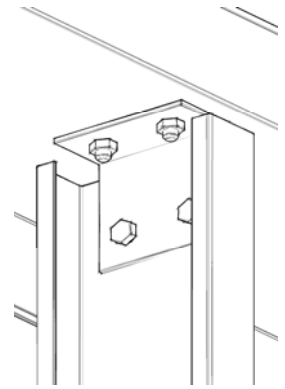

FIGURE 4
- d. Attach the Clips, (Part SC-011-GV), to both ends of the Vertical Channels with (2)  $\frac{3}{8}$ " diameter bolts. The 3" leg of the clip attaches to the Vertical Channel.
- e. Using  $\frac{3}{8}$ " diameter bolts, attach the tabbed end of the Vertical Channel, open "C" facing toward the center, to the drilled girt holes. Level and plumb the Vertical Channel in both directions. Using the top connection clip, mark the hole locations and drill  $\frac{7}{16}$ " diameter holes in the upper girt or eave strut. Bolt together with  $\frac{3}{8}$ " bolt/nuts. (Figure 4) Repeat for other Vertical Channel.